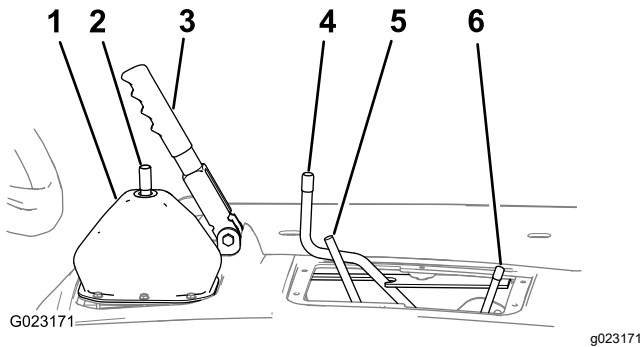

Figure 11
- 1. Ensure that the parking brake is set (Figure 11).
- 2. Move the rod for the differential lock forward and to the right (Figure 11).